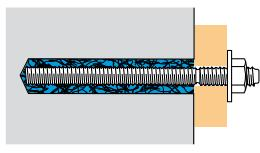

fig.5
- **Bond** (fig.5): the load is transferred to the base material through the chemical adhesive inserted between the anchor and the hole walls. The adhesive, normally a resin, which adheres to the anchor on one side and the hole walls on the other, transfers the load through micro keying. For the fixing to work correctly, the anchor must have a rough surface (e.g. a threaded bar) and the hole must be cleaned properly so that the resin can penetrate the micro-craters formed on the hole walls during the drilling phase.
- chemical anchors (fig.5)